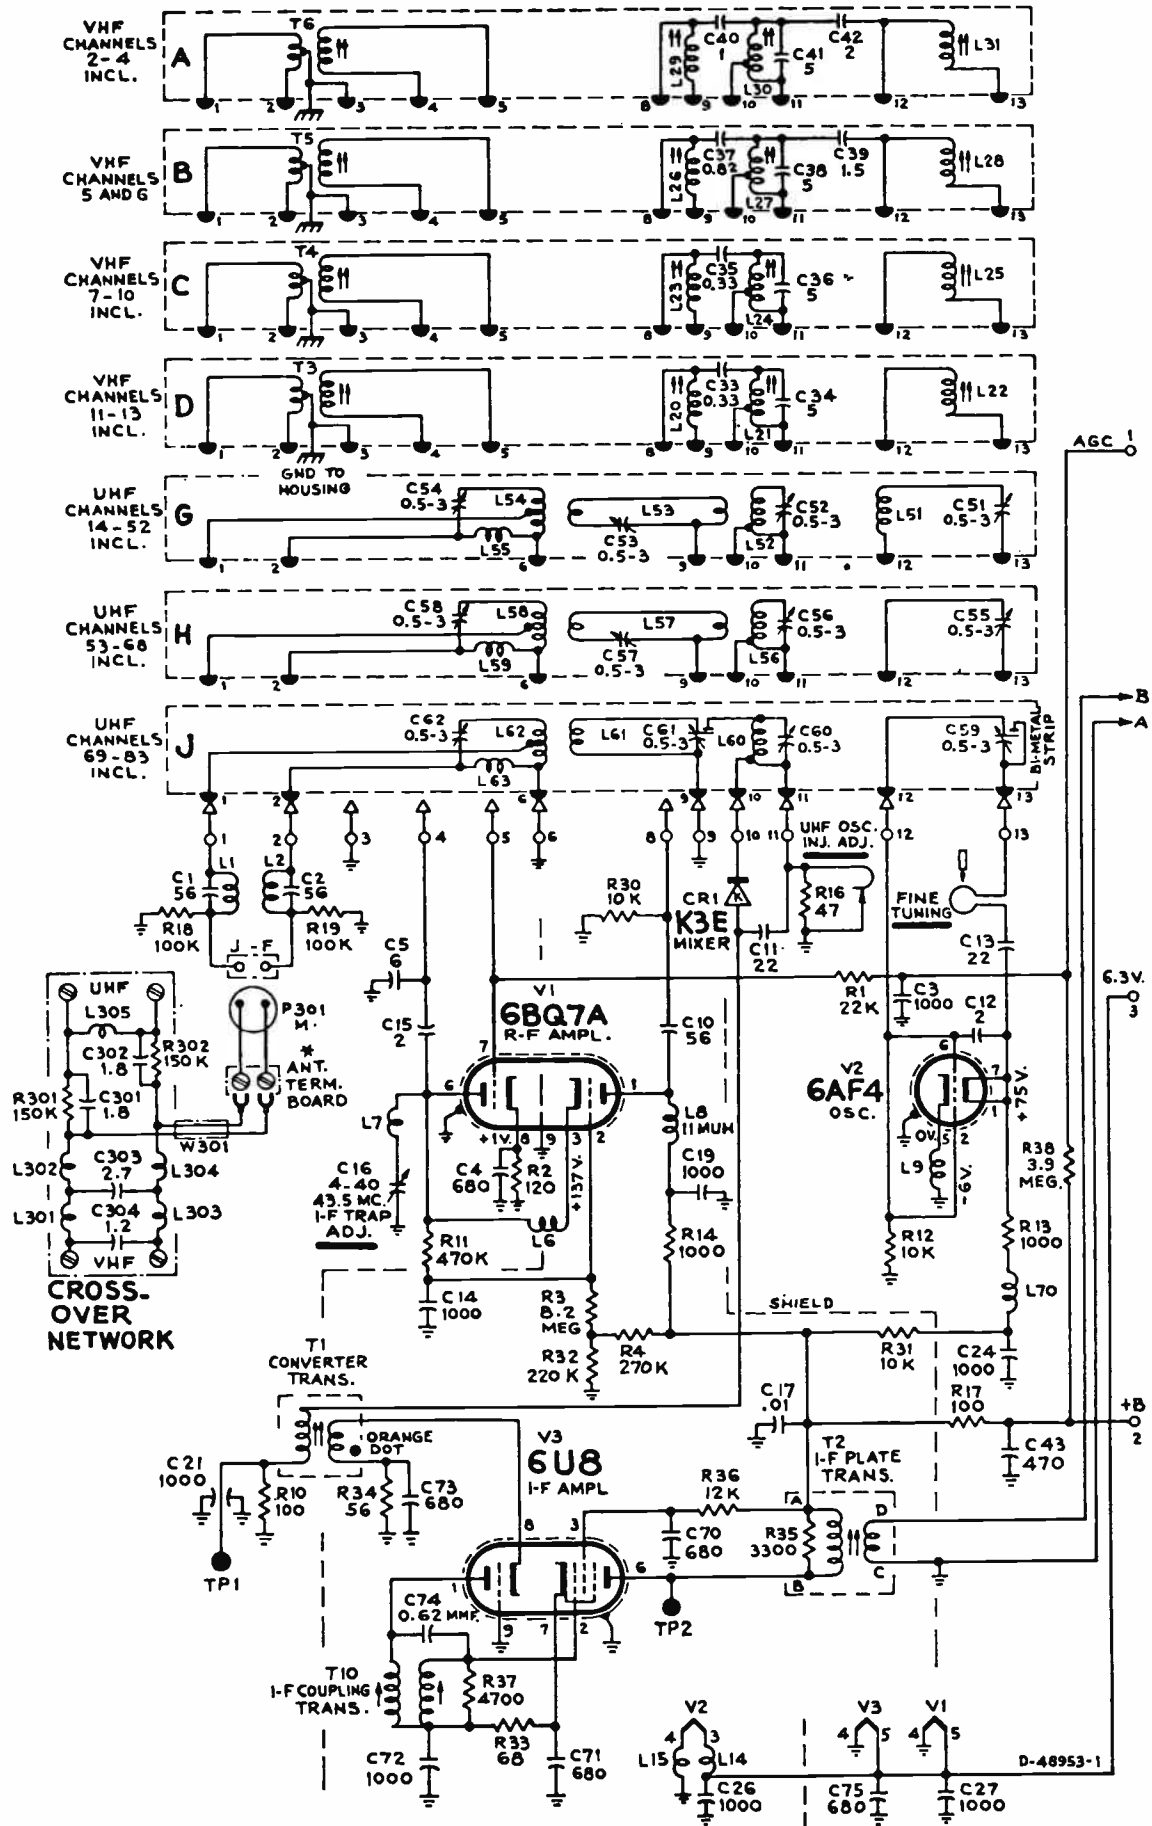

Fig. 40. A VHF-UHF tuner used in an RCA color TV receiver.
Since the number of UHF channels likely to be assigned any one locality is limited, there is really no need to be able to tune all the channels. Before the law was passed requiring all-channel reception some manufacturers built sets designed to cover a number of VHF channels plus a number of UHF channels. An example of this type of tuner is shown in Fig. 40. It can be set up for any 16 TV channels. Usually the tuner is set up to cover the 12 VHF channels and four of the UHF channels. The tuner is a turret-type, and the strips for any unused channel can be removed and strips for another channel inserted.
- (ae) On what channels is the cascode i-f amplifier used in the tuner in Fig. 40?